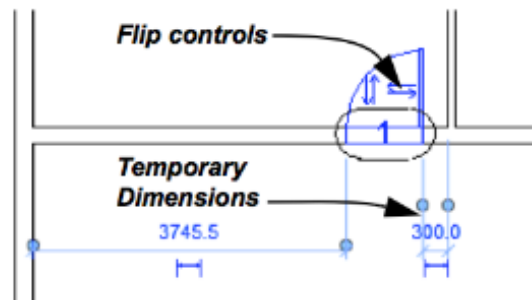

Figure 2–25
6. Select the door. Use temporary dimensions to move it so that it is **300mm** from the right interior vertical wall. If required, use controls to flip the door so that it swings into the room, as shown in Figure 2–25.